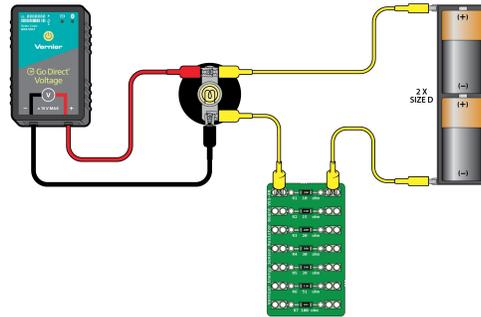

Figure 3
9. Add resistance to the setup. There should be a complete circuit from the batteries to the light bulb to the resistor and back to the batteries. The light bulb should still light, but it may be dimmer than before (see Figure 3).